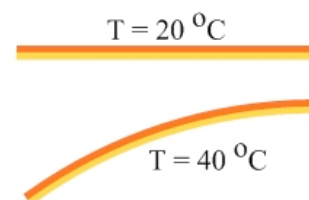

Figure 13.6: A bimetallic strip, for Exercise 5.
- A bimetallic strip is actually made from strips of two different metals that are bonded together back-to-back, as shown in Figure 13.6. The two strips have the same length at room temperature, 20°C . If the temperature changes, the two strips expand or contract different amounts, causing the bimetallic strip to bend into a circular arc, as shown in Figure 13.6, with the longer strip on the outside of the arc. (a) If the bimetallic strip in Figure 13.6 is composed of a strip of brass bonded to a strip of iron, which side is which? Why? (b) Bimetallic strips are often used as switches in thermostats, turning a furnace on if the temperature falls below a certain pre-set minimum value and turning the furnace off again when the temperature has risen sufficiently. Briefly explain how this process works.